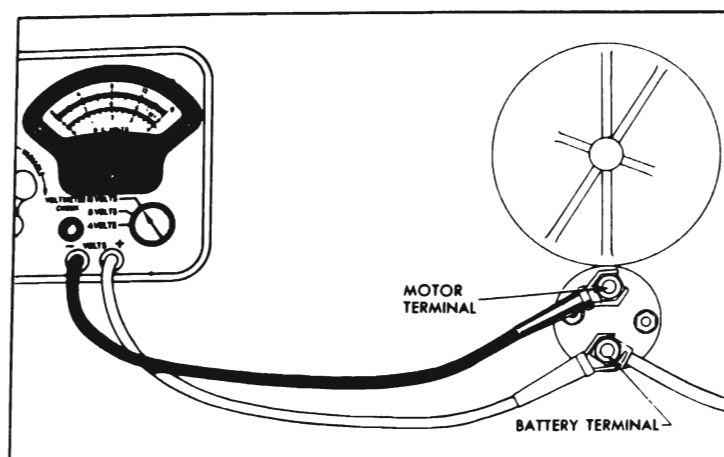

Figure 10-30—Solenoid Switch Contact Test Connections
6. With voltmeter switch turned to any scale above 12 volts, connect voltmeter negative (-) lead to the motor terminal of solenoid switch, and connect positive (+) lead to battery terminal of switch. See figure 10-30.
1. Remove screw from solenoid motor terminal and bend field leads slightly until clear of terminal. Then ground solenoid motor terminal with a heavy jumper wire. See figure 10-30.